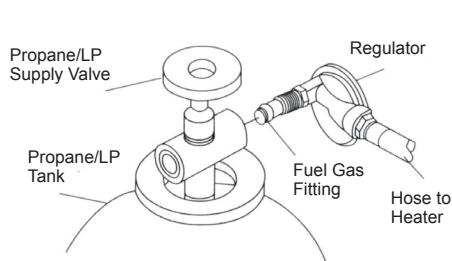

FIGURE 1
- 3a. For units with a POL fitting (see figure 1) turn fuel fitting counterclockwise into threads on tank. Tighten firmly using a wrench. Some models have a hand wheel that can be used to tighten the fitting. This hand wheel can be slid off of the nut so that a wrench can also be used to tighten the fitting. **IMPORTANT:** Position regulator so that hose leaving the regulator is in a horizontal position.